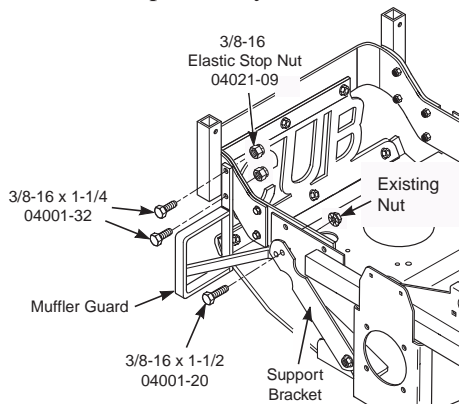

FIGURE 3-5
- Remove the upper hex head bolt and serrated flange nut securing the support bracket to the frame of the machine. Retain the serrated flange nut for re-use. Install the muffler guard as shown and assemble to the frame of the machine by installing two (2) 3/8-16 x 1-1/4" hex head bolts through the rear holes in the RH hopper mounting bracket and secure with two (2) 3/8-16 elastic stop nuts provided. See Figure 3-5. Install the front mounting tab of the muffler guard between the support bracket and the frame of the machine. Secure with the 3/8-16 x 1-1/2" hex head bolt supplied with this catcher and the serrated flange nut removed previously.